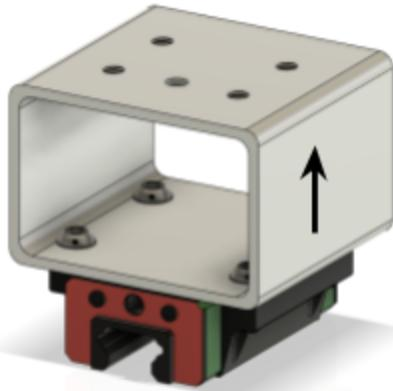

Figure 7.3
11. Mount the HGW20 block to the bottom of the beam using the M6x20mm button head bolts as shown in Figure 7.3.